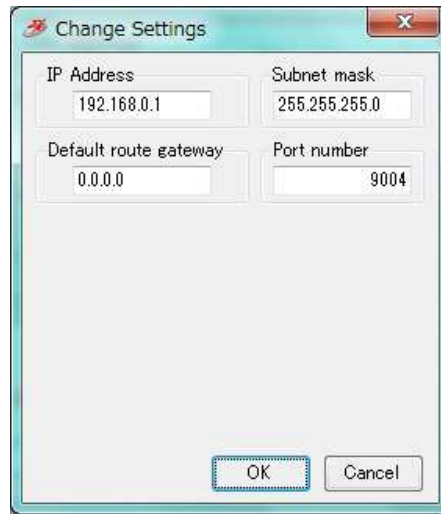

Figure 3-7 : LAN settings
⑦ Click OK after setting IP address on Figure 3-7 LAN settings in accordance with PC condition.